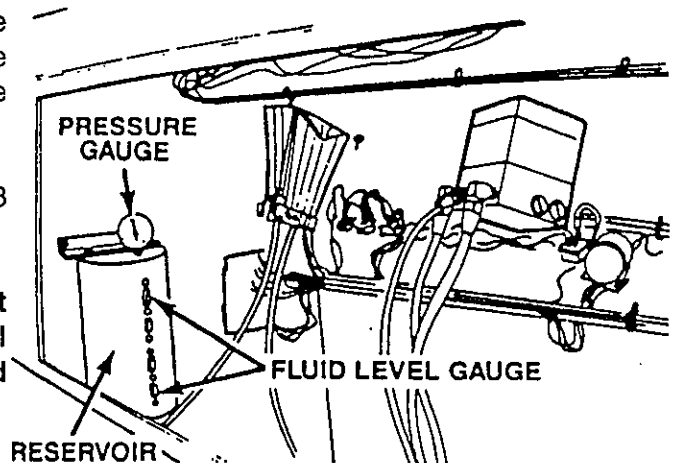

Figure 3-13 Checking Steering System Pressure
15. See Figure 3-13. Check that the pressure on the hydraulic steering reservoir gauge in the bridge command console. Pressure should be between 20 and 30 PSI. If pressure is low, have system serviced.